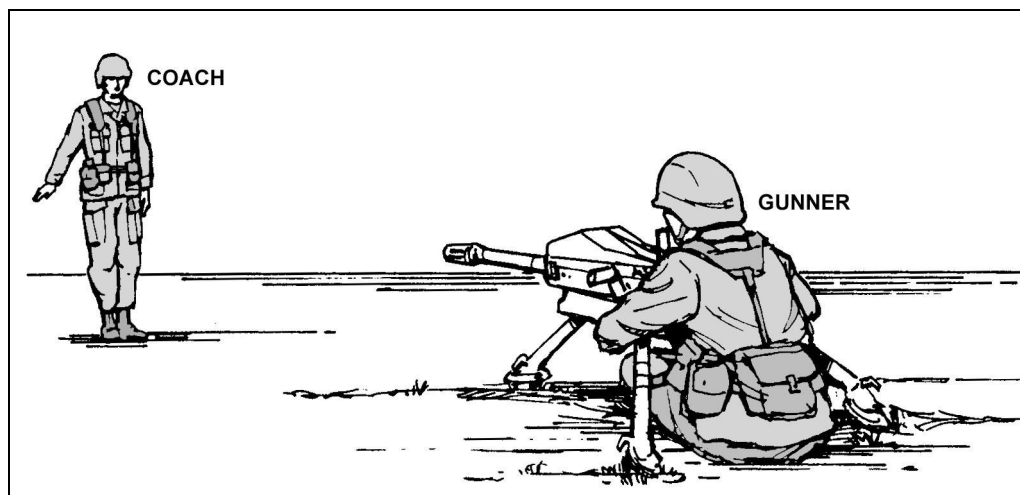

Figure 4-11. Coach and gunner exercise.
(1) The first exercise gives the gunner practice in manipulation. The coach stands 10 paces in front of the gun and uses hand signals to show the direction in which the gunner is to move the muzzle (Figure 4-11). The gunner works the handwheel to manipulate the gun. The coach observes and makes needed corrections. When the gunner reacts quickly and can manipulate the gun as he has been shown, his instruction may continue.